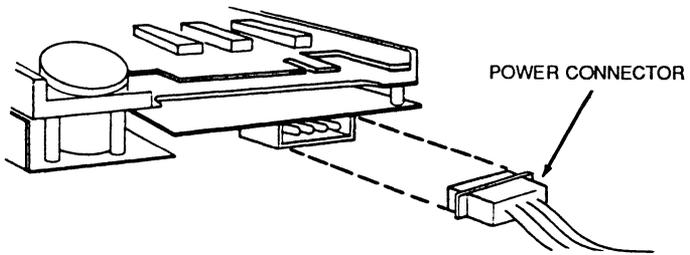

Figure 3-7 Applying Power to the Tape Drive
8. Locate an available power lead (twisted wire cable with plastic four-pin connector) inside your system and connect it to the tape drive as shown in Figure 3-7.